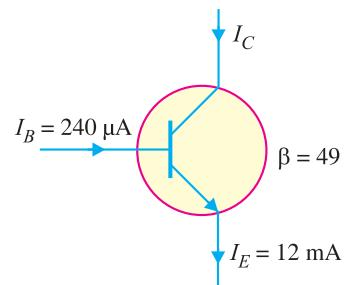

Fig. 8.20
**Example 8.10.** Find the  $\alpha$  rating of the transistor shown in Fig. 8.20. Hence determine the value of  $I_C$  using both  $\alpha$  and  $\beta$  rating of the transistor.
**Solution.** Fig. 8.20 shows the conditions of the problem.